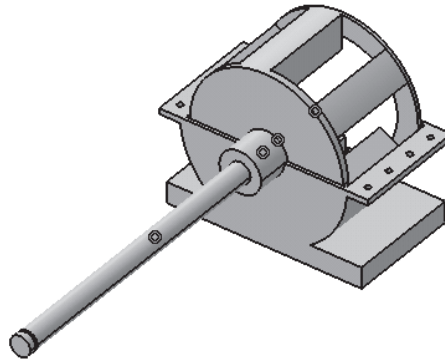

Figure 11-75 Position of the Motor Shaft with respect to the Blower shown from the back side
4. Choose the **Quick Constraint** button from the **Constraints** toolbar and move the cursor over the Motor Shaft. The axis of the shaft will be displayed as a center line. Select the axis by clicking over the center line. The axis will be now highlighted in orange. Similarly, select the axis of the Blower hub. The **Coincidence** constraint will be automatically applied between the two selected axes. Update the model to place the Motor Shaft inside the Blower hub, as shown in Figure 11-75.